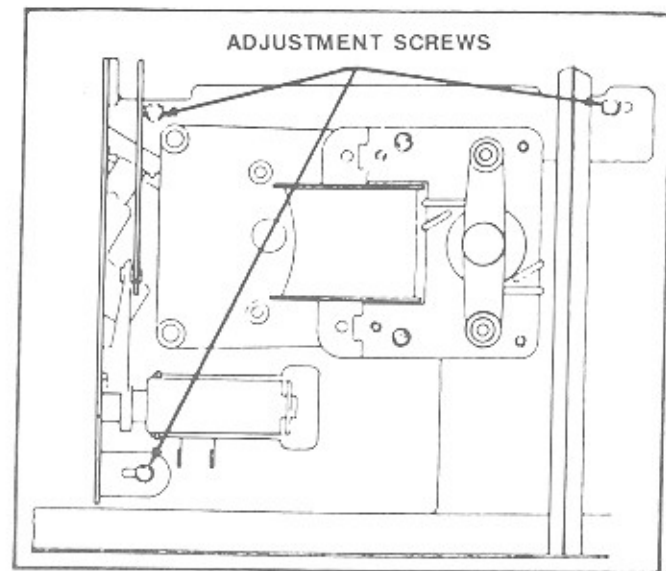

Figure 6-16. Magazine Adjustment
- With sprag wheel locked, move the magazine until the disc is centered between belt guides (The adjustment screws will be approximately centered in the slots, see figure 6-16).